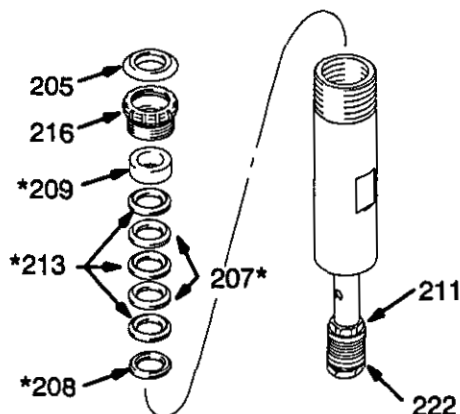

Fig. 28
2. Remove the plug (205). Unscrew the packing nut (221). See Fig. 28.
3. Tap the piston rod (224) down and then pull it out the bottom of the cylinder (219). See Fig. 28.
4. Remove the throat packings. See Fig. 28.
5. Clamp the piston rod (224) in a vise. Loosen the nut (211). Unscrew the piston valve (222). Remove the piston packings. See Fig. 28.
- Clamp the piston rod (224) in a vise. Loosen the retaining nut (211). Unscrew the piston valve (222). Remove the piston packings. See Fig. 28.